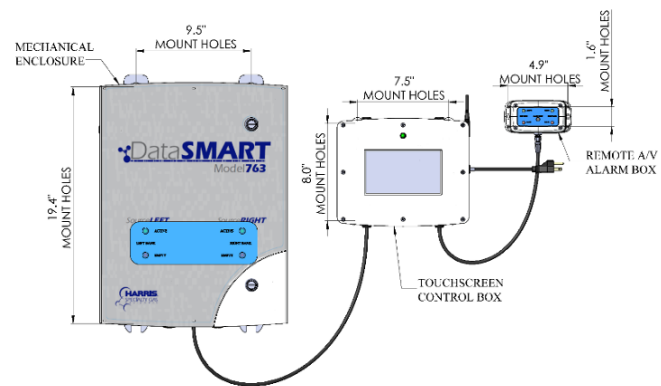

Figure 1 – Mounting Dimensions
The above Figure 1 shows a typical installation with critical mounting dimensions. The Touchscreen Control Box can be mounted in close proximity to the Mechanical Enclosure. The Remote A/V Alarm Box can be mounted up to 200 feet away with the proper cable. Contact Harris Technical Service for more information.
3. Locate the mounting tabs on the Mechanical Enclosure and the mounting dimensions from Figure 1.